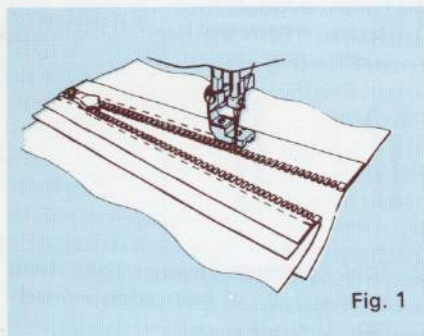

Fig. 1
1. Finish edge of hem anyway you desire. Turn up hem appropriate width. (Fig. 1)
The foot is adjustable for use on the right or left side of the needle when sewing the regular type of zipper. Adjust the foot so the needle clears the side notch on the foot. See Fig. 1. Carefully follow directions given on the zipper package.